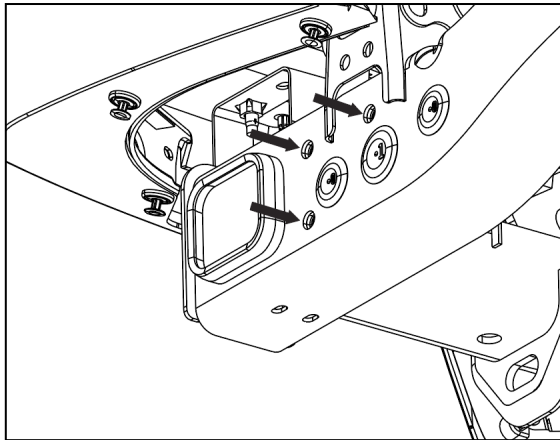

Fig. 1-1
1. Locate rear receiver hitch attachment points on passenger side of the vehicle. (Fig. 1-1)